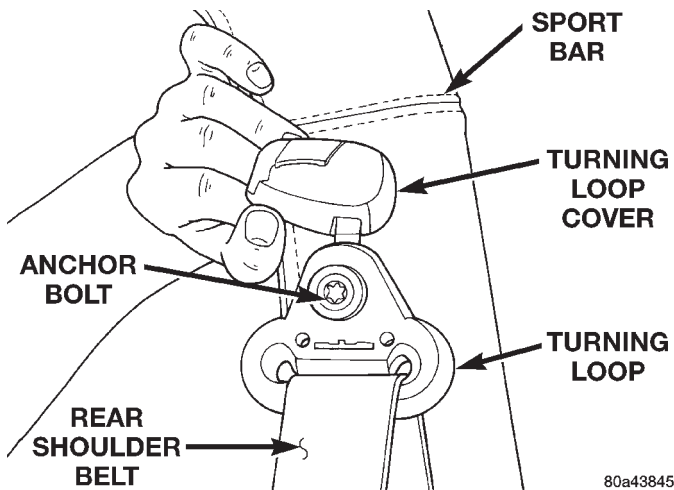

Fig. 55 Turning Loop
- (4) Remove the bolt attaching the turning loop to the sport bar (Fig. 55).
- (5) Remove the bolt attaching the retractor to the sport bar.
- (6) Separate the belt assembly from the vehicle.